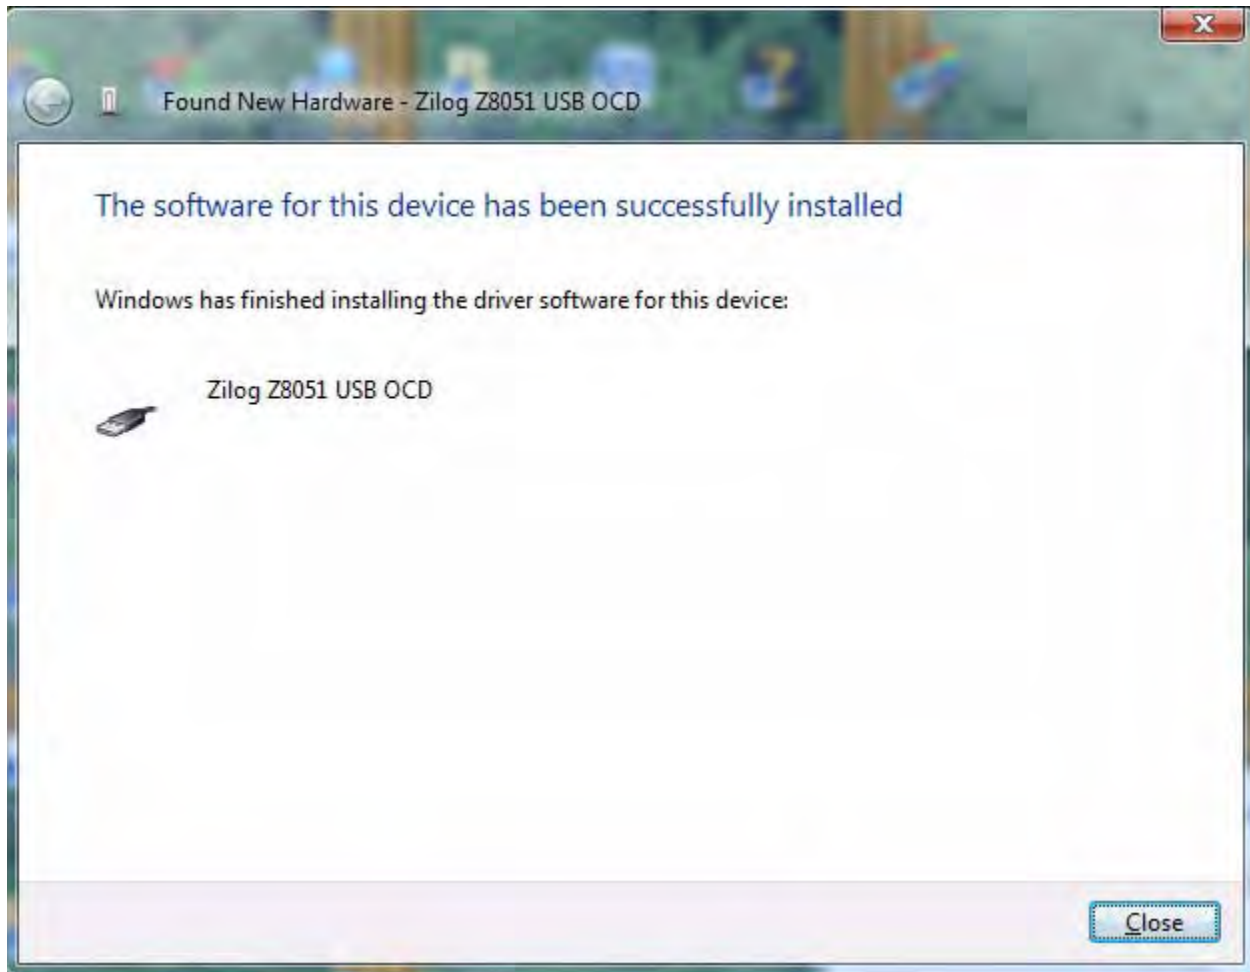

Figure 10. Successfully Installed Dialog, Windows Vista
- When the installation is complete, the screen shown in Figure 10 will appear. Click **Close** to exit the OCD driver installation.
► **Note:** On some installations, the Found New Hardware screen shown in Figure 10 may also display the text string, *Zilog Z8051 USB OCD - No Firmware*. This occurrence is normal and can be disregarded.